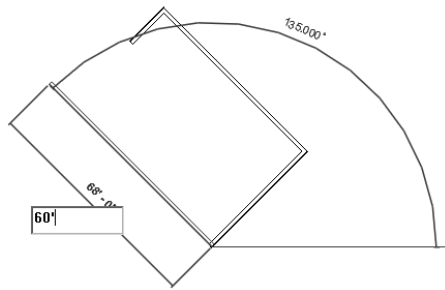

Figure 3-42 Sketching the fourth inclined wall segment
7. To create the next wall, move the cursor upward toward left and invoke the perpendicular snap override as in the step 5. Enter 60'0" as the wall segment length and press ENTER to create the fourth inclined wall segment, as shown in Figure 3-42.